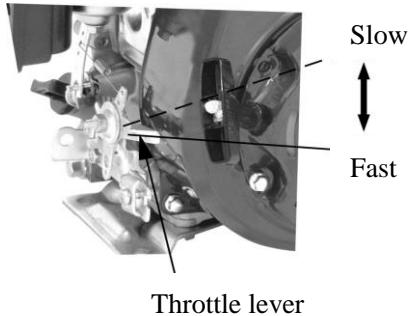

Fig.7
3. Move down the throttle lever slightly to the FAST position (Fig. 7).